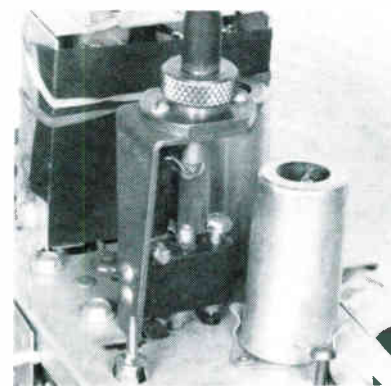

FIGURE 7
**IF Jig — Part No. 45-1739 (See Figure 7)**